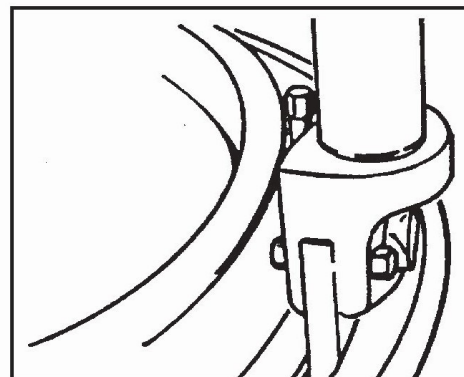

Figure 3
1. Place the bead breaker into the continuous pry bar pocket, with the hooks under the lip of the bead seat band. (See Fig. 3.)
3. Adjust the ram adjusting screw so that the bead breaker is perpendicular (90°) to the wheel. (See Fig. 3.) In some cases you may have to use an OTR-1825D (10100) or OTR-1600 (10105) to move the rim flange far enough back to insert the larger 10144 tool.